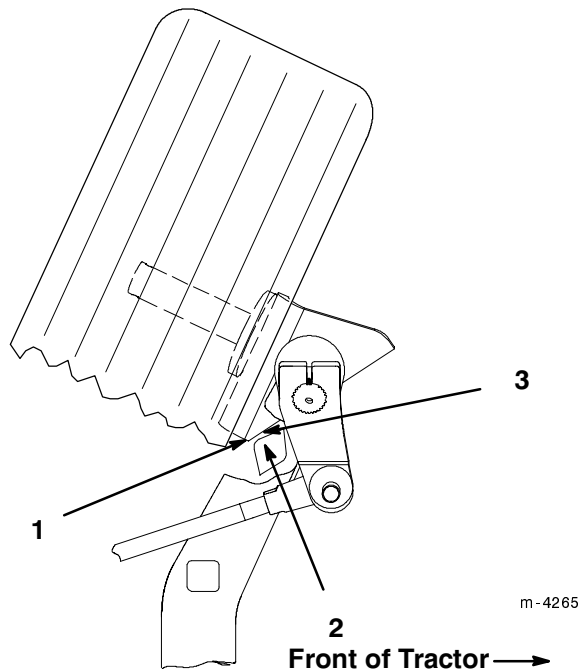

Figure 8
1. With the tractor on a level surface, turn the steering wheel fully to the left and check the clearance of the left hand spindle stop to the stop on the front axle. There should be a slight clearance between the stops (Fig. 8).